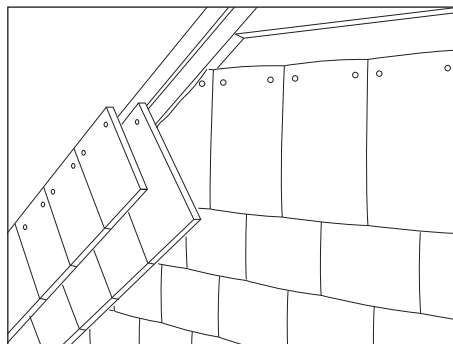

Fig. 25 – Fixing double soldier course of tiles to raked batten
- 3 Fix courses of eaves/tops tiles to raking batten (Fig. 25).
- 3 Fix courses of standard Plain tiles to lower of two raked battens, then fix course of eaves tiles to remaining (top) raked batten (Fig. 25).